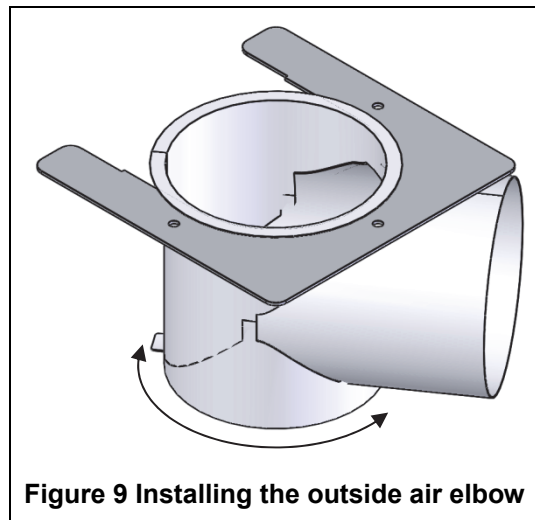

Figure 9 Installing the outside air elbow
7. Insert the outside air elbow into the support (see Figure 9) and install this assembly onto the fireplace, using at least two of the screws that were removed previously but do not tighten it yet.